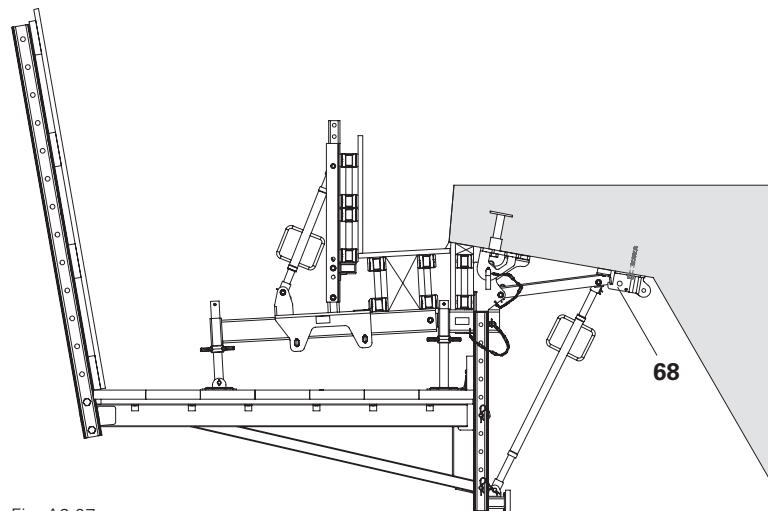

Fig. A2.07
- No ballasting is required when mounting with Bracing Shoe VGK (68). (Fig. A2.07)